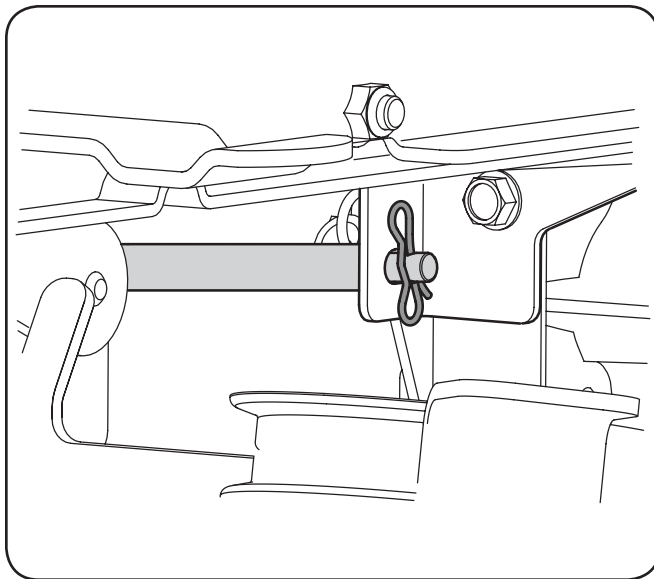

Figure 7-4
9. Remove the bowtie cotter pin connecting the deck sway rod to the tractor frame. See Fig. 7-4.